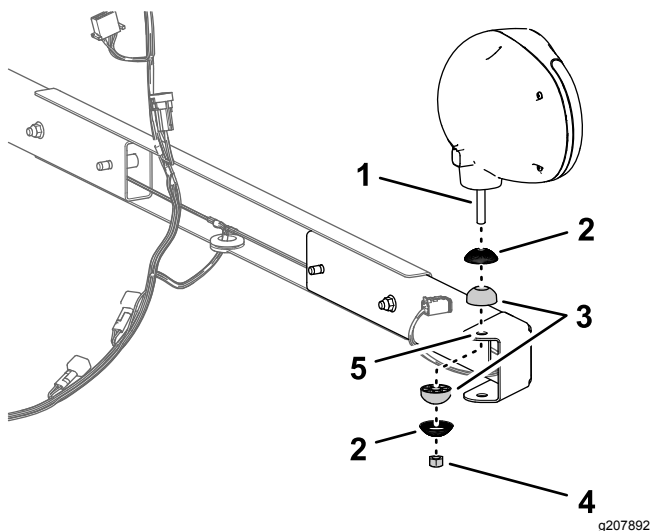

Figure 14
2. Assemble a serrated shell and a spherical joint onto the stud of a worklight (Figure 14).
3. Assemble the worklight into the hole in the flange of the worklight mount (Figure 14) with a serrated shell, spherical joint, and locknut (10 mm), and tighten the lamp by hand.
1. Assemble the worklight mount and support channel to the frame of the floor plate with 2 flange locknuts as shown in Figure 14.